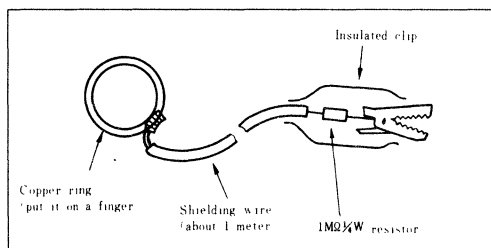

Fig. 1
- (1) Keep all device terminals in a conductive mat to maintain equi-potential during transportation and storage. A conductive mat called "MOSPAK" is commercially available. Unless otherwise specified, all Hitachi IC memories are shipped in conductive mats. Memories should be stored in these mats.
- (2) When handling IC memories for inspection or connection, grounding must be provided as shown in Fig. 1. The 1M ohm resistor protects the handler from electric shock.